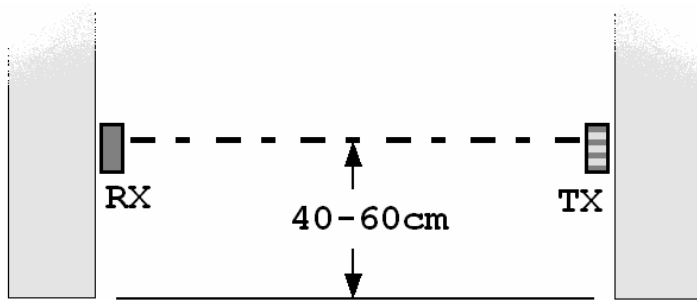
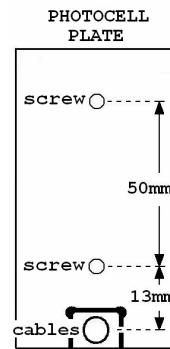

FIG. 1
FIG. 2
1) Fix the photocell plate to the wall using the screws (fig.2), the height from earth level has to be around of 40/60 cm (fig.1)